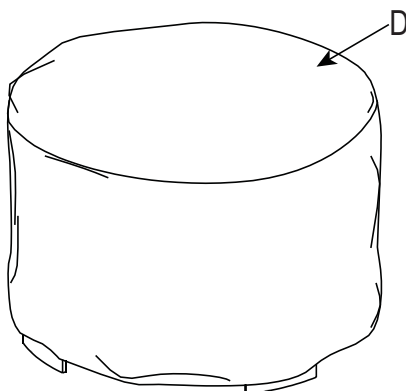

Figure 7
5. Cover the fire pit with the outdoor weather cover (D) when not in use to protect it from the elements or when fire pit is cool COMPLETELY after the use, (see Figure 7).